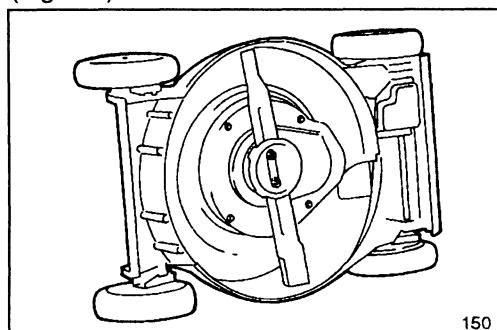

Figure 30
3. Tip mower on its right side (Fig. 30).